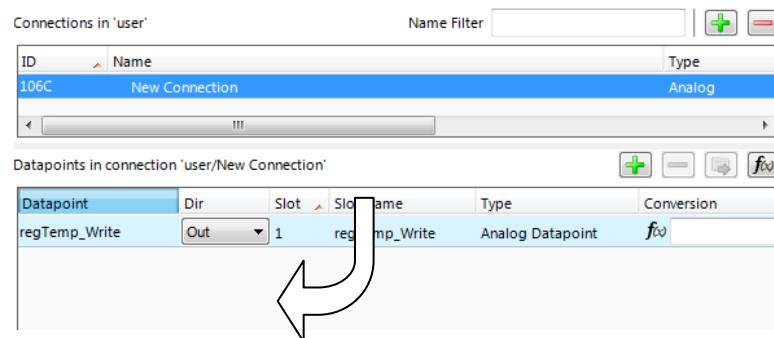

Figure 167: Modify connections in the properties view.
2. In the properties view below the data point list click on the **Connections** tab as shown in Figure 167.
4. Drag the selected data point and drop it into the empty area of the **Datapoints in connection** list as shown in Figure 167. This adds the data point to the selected connection.